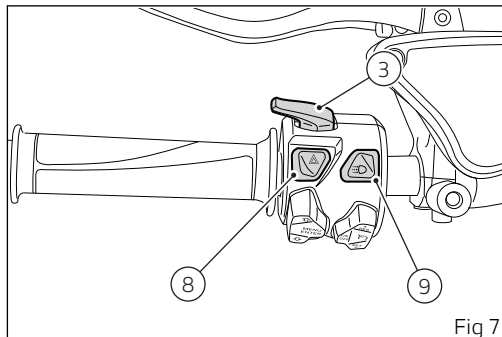

Fig 7
3) ON/OFF AND LIGHT BUTTON (LOW BEAMS / HIGH BEAMS) (Fig 7)